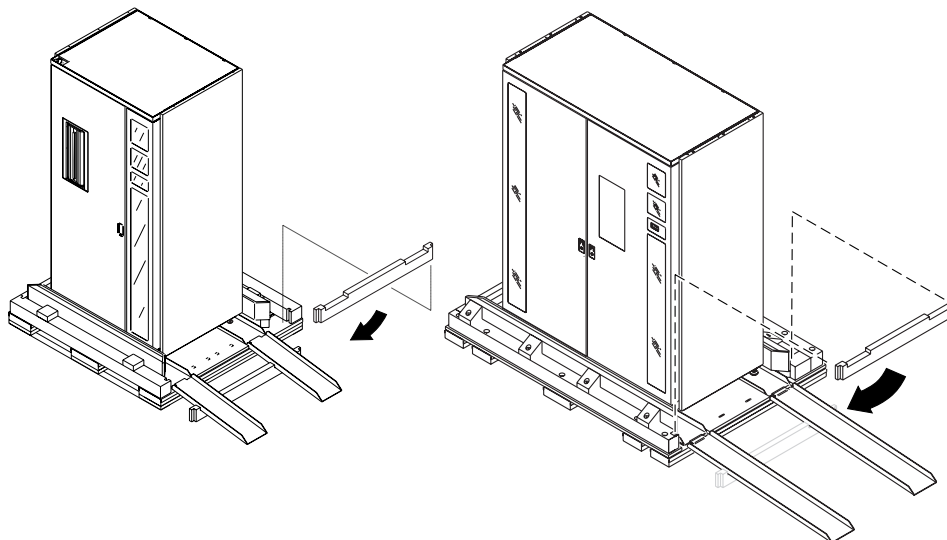

Figure 4-12. Moving the wooden bar
5. Move the wooden bar (see Figure 4-12):